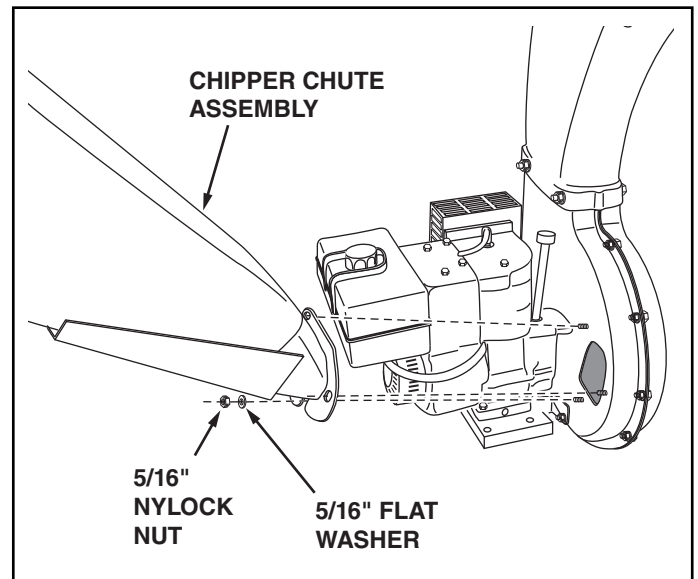

FIGURE 9
17. Attach the chipper chute assembly to the weld bolts on the back side of the impeller housing using three 5/16" flat washers and 5/16" Nylock nuts. **Tighten.** See figure 9.